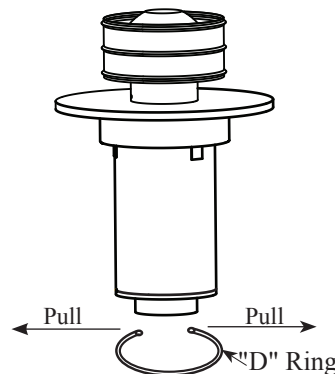
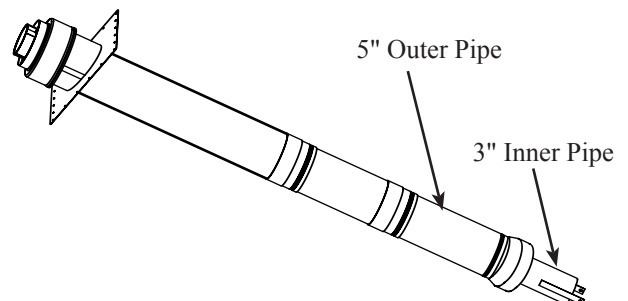

Figure 3 -Upper Roof Jack Module
Figure 4 - Lower Roof Jack Module
- 5 Selecting the roof jack module.** The Co-axial vent roof jack is divided into two modules. The lower module (See Figure. 4) should be installed on the water heater at the factory location. The upper roof jack module (See Figure. 3) should remain in the co-axial carton box and shipped inside the manufactured home for assembly and setup at the permanent location of the home.
**A.** Disassemble the upper roof jack module by expanding the "D" ring as shown in Figure 3. **DO NOT** remove the silicone band attached to the 3" pipe; it will be used for final assembly at the permanent location of the home.
**C.** Place the upper roof jack module back into the carton. Seal the carton with the bright orange Carton Warning Label (F) supplied. Make sure the carton box ships with the manufactured home for final assembly of the vent system at the permanent location of the home.
- 6 Lower Roof Jack Module Installation.** Install the lower roof jack module into the roof. The 3" inner pipe is supplied with two brackets attached at the lower end of the pipe to attach it to the top pan.(See Figure 4)